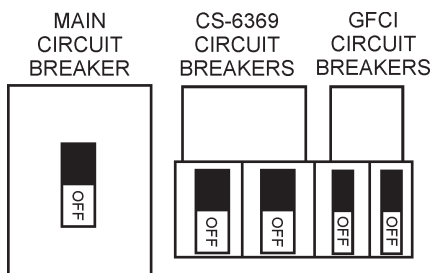

Figure 51. Main, GFCI and Load Circuit Breakers Off
- Place both the **MAIN, GFCI and LOAD** circuit breakers as shown in Figure 51 to the **OFF** position..
- To shut-down the engine in the event of an emergency, switch the **MAIN, GFCI and LOAD** (Figure 51) circuit breakers to **OFF** position.